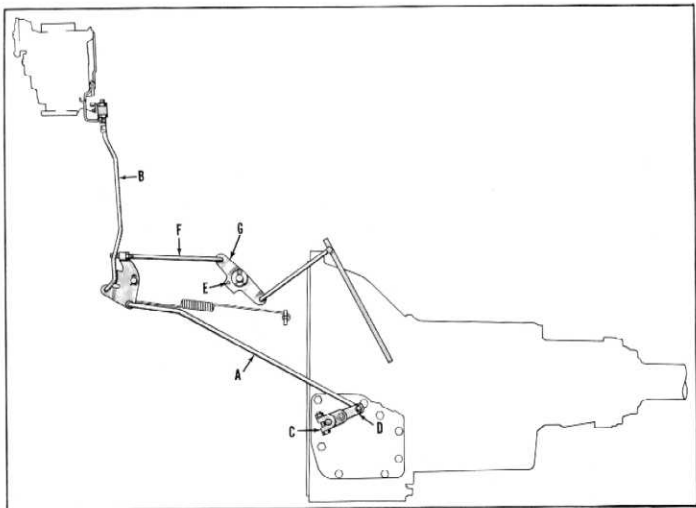

Fig. 26
3. Disconnect rod "A" (fig. 26) from throttle lever "D".